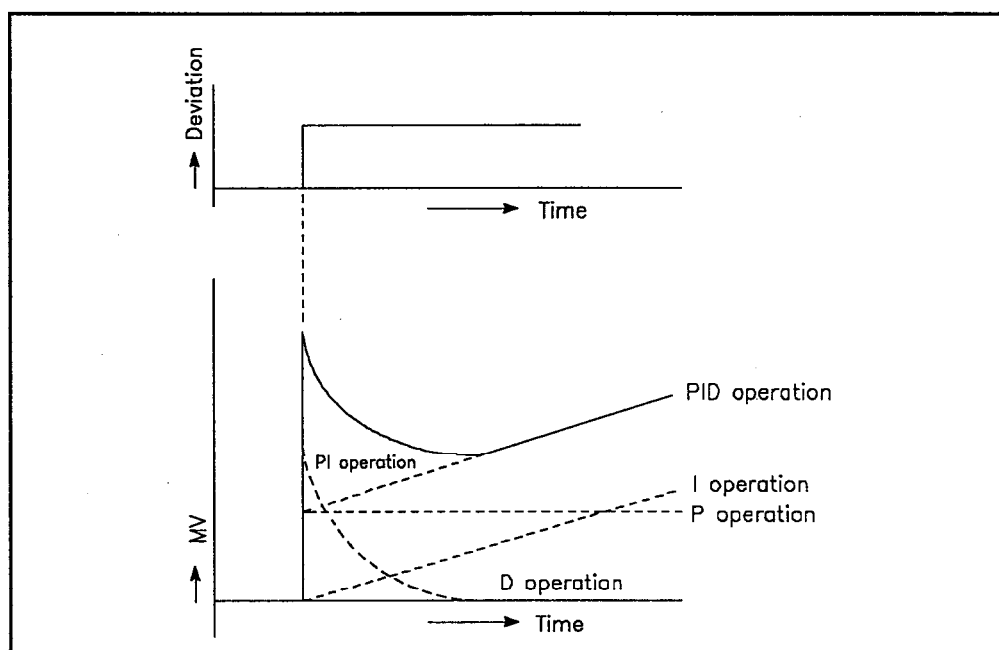

Fig. 4.5 PID Operation with Constant Deviation
- (1) During PID operation, the system is controlled by the MV (manipulated value) calculated in the (P + I + D) operation.
- (2) PID operation in step response with a constant E (deviation) is illustrated in Fig. 4.5.